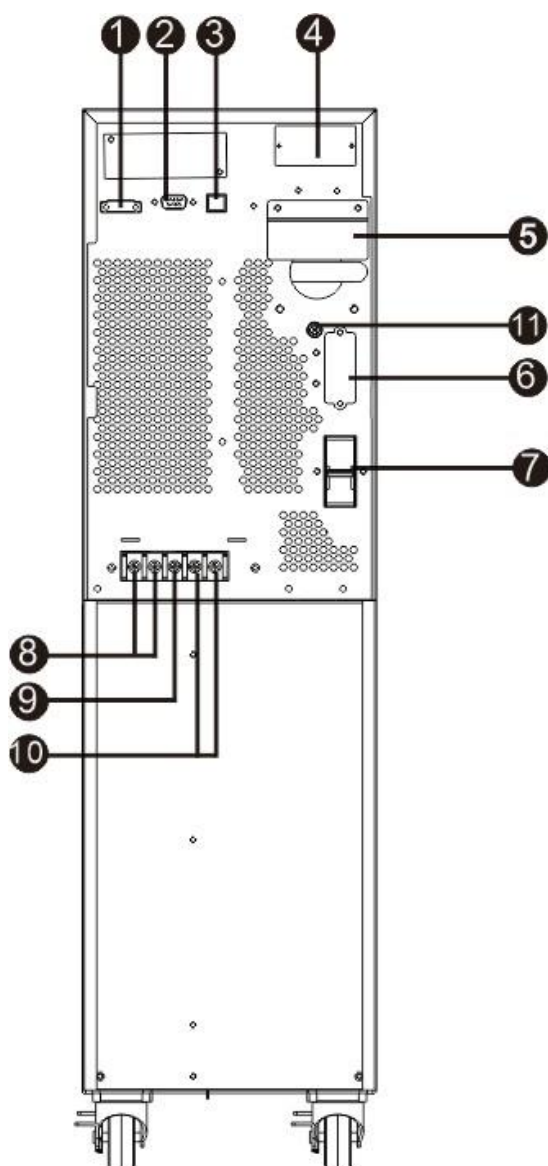
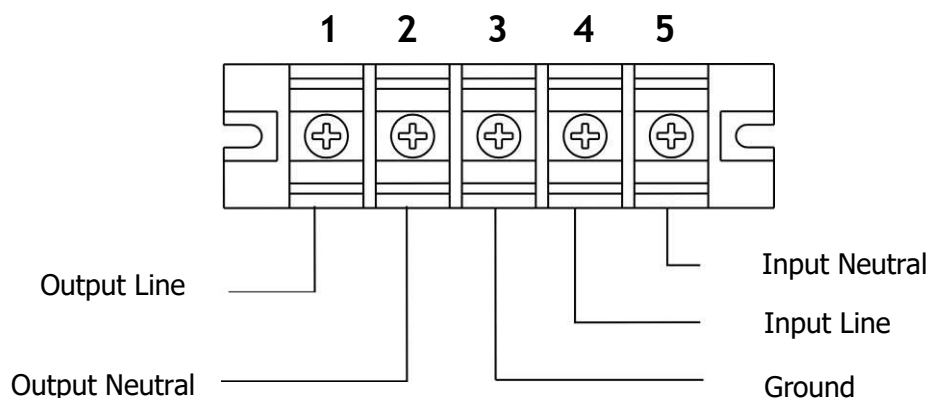

Figure 4 - Rear side
Figure 5 - Input/Output Terminals
1. The Input circuit breaker on the rear panel is “OFF” (see figure 4).
1. Remove the **metallic panel** that covers the **Input/Output terminals**, see figure 4. The terminals are shown in figure 5.
2. Connect the **INPUT line (LINE, NEUTRAL and GROUND)**, paying attention to the right polarity, in accordance with figure 5, as explained below:
- ▶ Remove the metallic cover for Battery connector on the UPS rear side (# 1, figure 4)
Remove the metallic cover for Battery connector (#1, figure 4) **ONLY** if there is an external Battery Box.
1. Install and wires the UPSs according to the **Figure 5**.
7. Check if the Input circuit breaker the rear side is in “OFF” position (see figure 4).